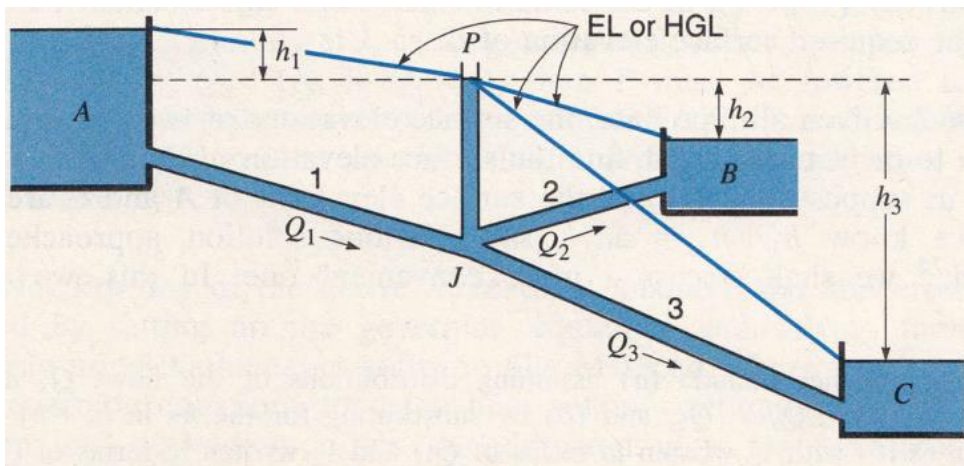

Figure 1.1
- Consider the system of branched pipes in figure 1.1 below. Pipe 1 is **1800m** of **1.25m** diameter, pipe 2 is **458m** of **0.84m** diameter, and pipe 3 is **1534m** of **0.7m** diameter. The velocity of flow in pipe 1 is **2.06m/s**.